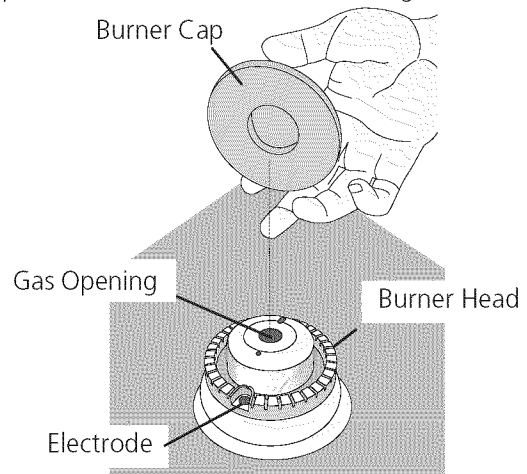

Figure 14
- B. **Regular Burners:** Burner heads and burner caps are already on the surface. Remove all tapes from burner caps and verify if they are correctly placed on the burner heads (see Figure 14).
4. Adjust the "low" setting for regular surface burner valves (Figure 14)